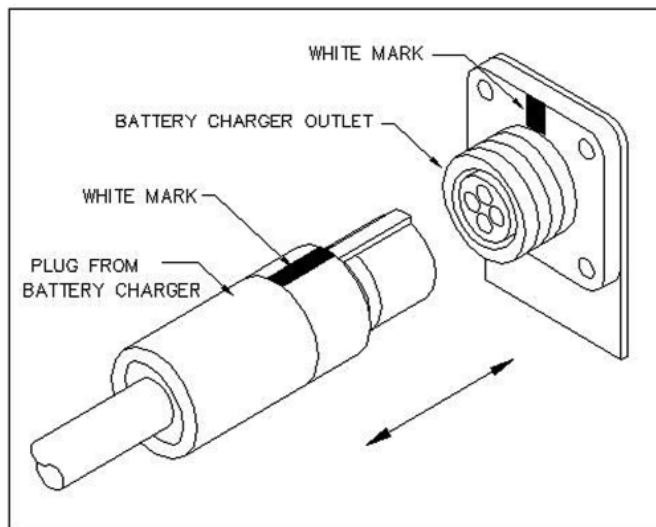

FIGURE 9
1. Connect the plug from the charger to the cart battery charger outlet located in the tiller (See FIGURE 2, page 15). Align the white mark on the connector and push firmly in until the plug is properly seated (See FIGURE 9). This assures proper connection to the batteries. **PLEASE NOTE:** For your safety the scooter is equipped with a charger safety lockout that will not allow the scooter to operate while the charger plug is plugged in.